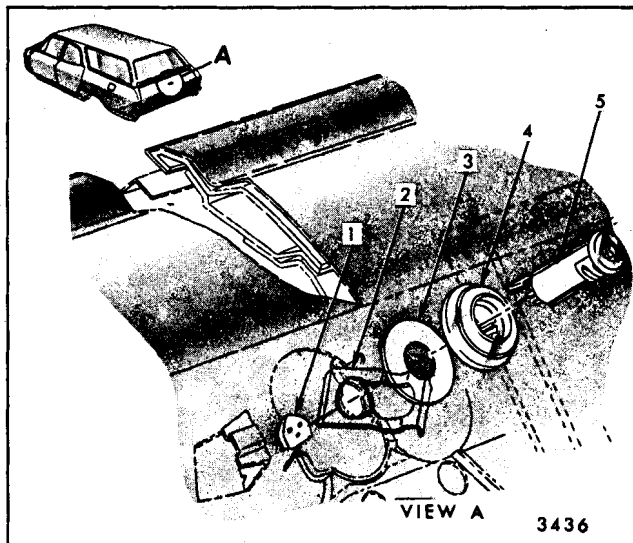

Fig. 9-40-Dual Gate Electric Key Switch and Cylinder Removal
4. Slide retainer free of key switch and remove switch (Fig. 9-40).